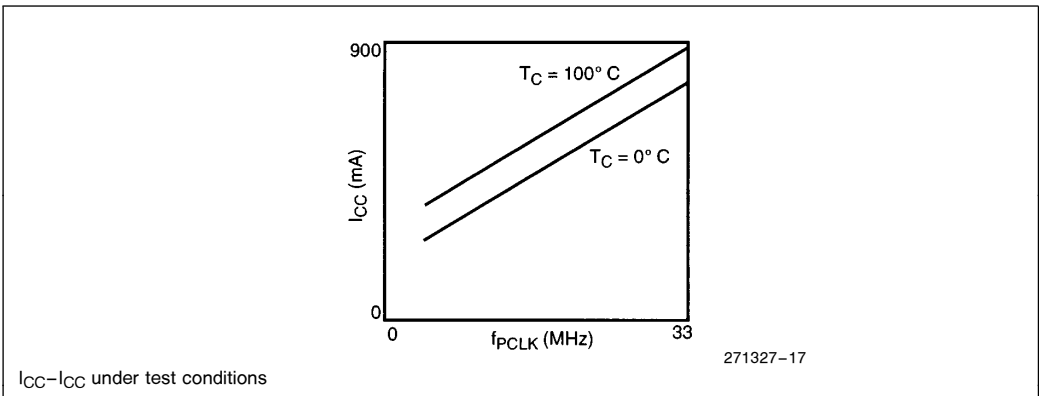

Figure 17. ICC vs Frequency and Temperature
- See Figure 17 for capacitive derating information for rise and fall times.